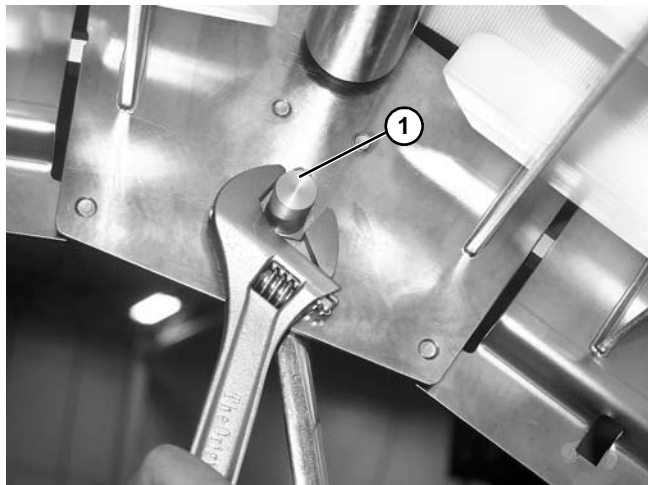

Figure 201
4. Use two wrenches to loosen and remove hex post (Figure 201, item 1) from upper knuckle plate.